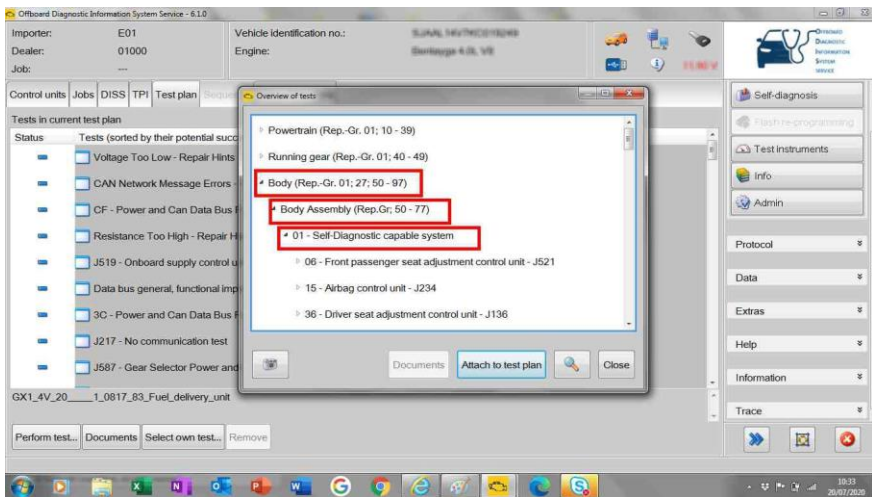

Figure 3.
- Select “*Body (Rep.-Gr.01,27,50-97)*” – figure 3.
- Select “Body Assembly (Rep.Gr.50-77)” – figure 3.
- Select “01 – “Self-Diagnostic capable system” – figure 3.